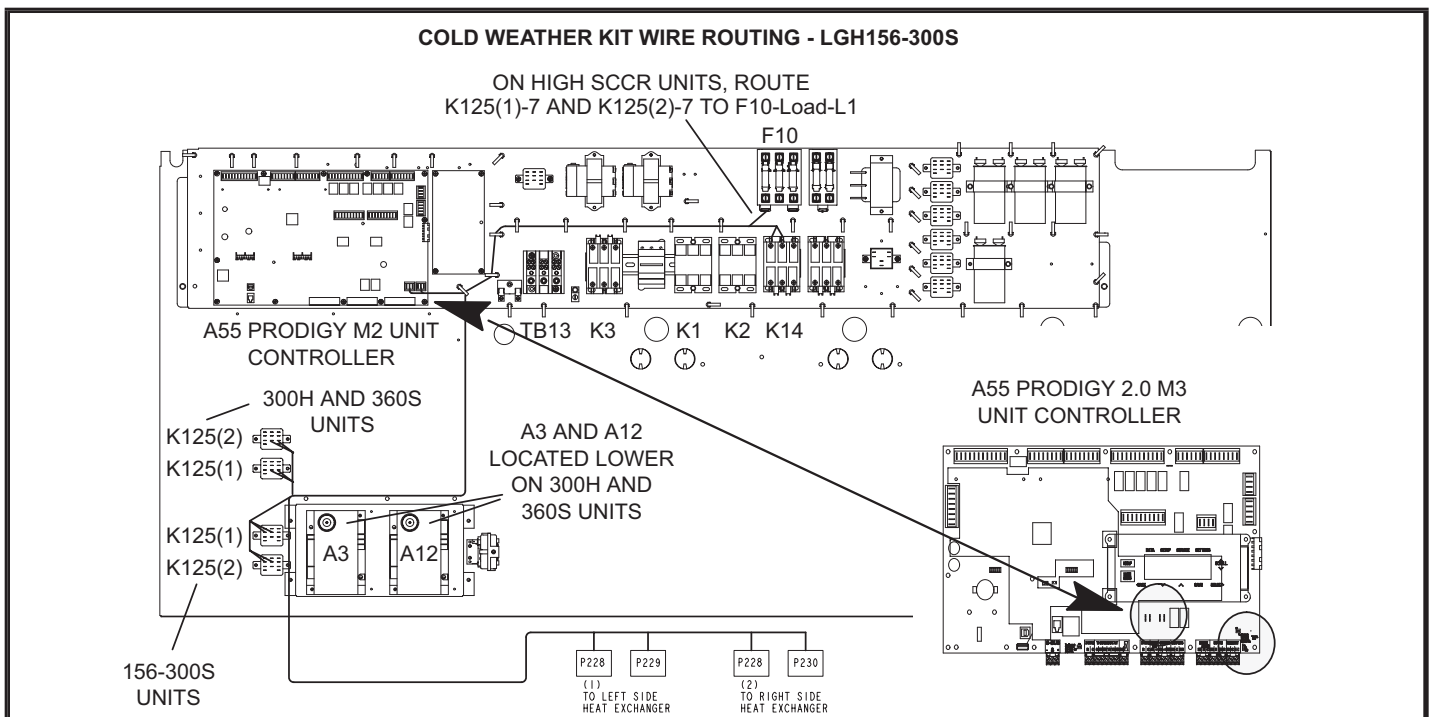

FIGURE 15
- 3 - Install both K125 relays in control area above compressors. Secure with #8 screws. See figure 15.
- 4 - Locate harness labeled 106051-01 for standard SCCR units or 105722-01 for high SCCR units. Route as shown in figure 15. Secure with wire ties. Discard unused harnesses.
- 4 - Locate harness labeled 604785-01 and route as shown in figure 15. Secure with wire ties. Discard unused harnesses.